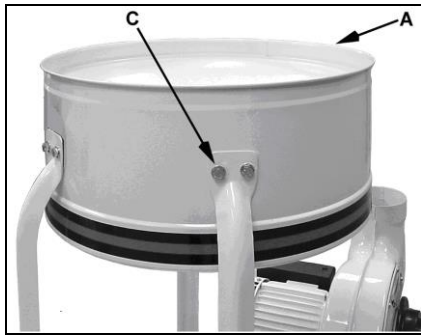

Fig 5
Install the housing (A, Fig 5) with 6 hex cap screws (C).